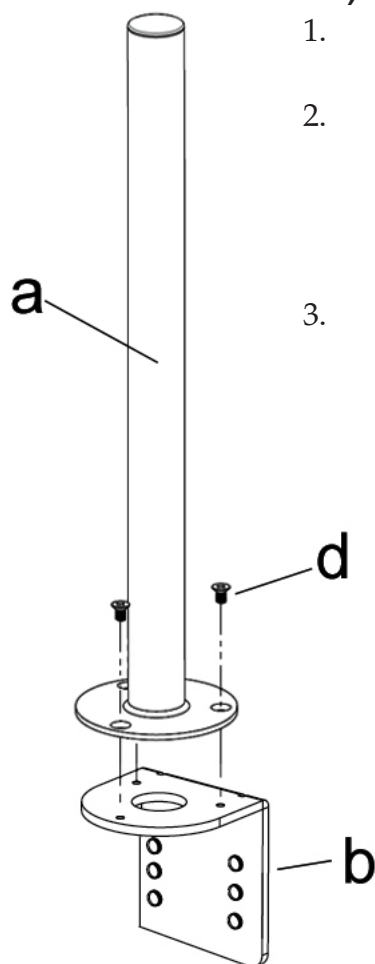

Figure 1
1. Install the C-clamp brace (b) to the 35mm Tube Support (a) using 3 C-clamp brace bolts (d), see Figure 1.